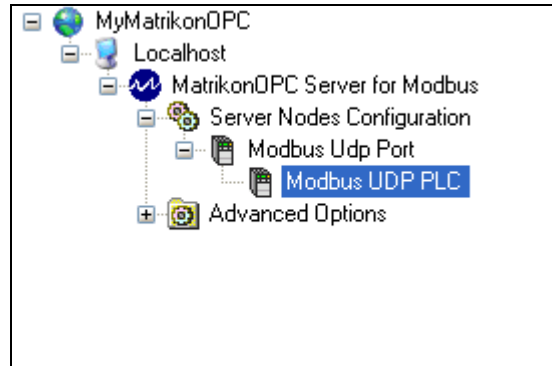

Figure 19 - New Modbus UDP PLC Object
6. Click on the **Create** button. The new item is created and appears as a child of the **Modbus UDP Port** node in the navigation pane as shown in Figure 19.